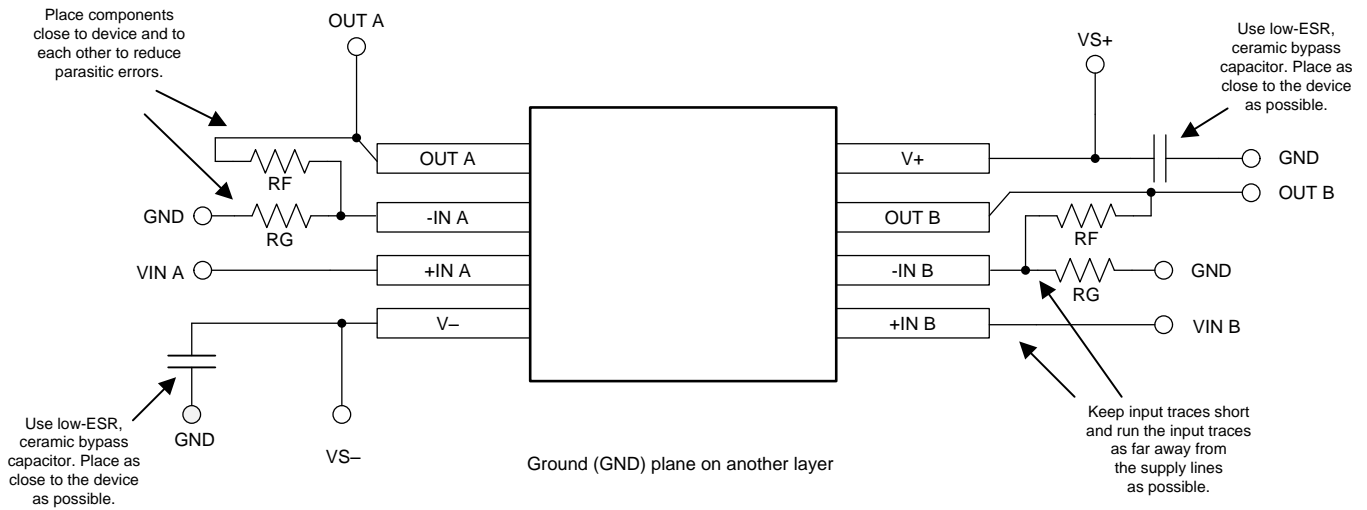

Figure 41. Layout Example
- Place the external components as close to the device as possible. As illustrated in Figure 41, keeping RF and RG close to the inverting input minimizes parasitic capacitance on the inverting input.